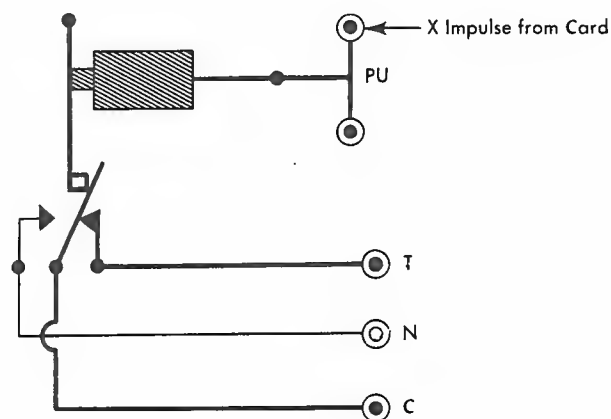

Figure 5.
2. Now assume that the next card passing through the machine is an X card (this means it has an X punch in Column 21.) This X punch enters the X-Pickup hub of the selector; from there it reaches and energizes the magnet. As the balance of the card is being read, the selector is in a Transferred condition and the reading brush impulse from a column into the Common hub of the selector comes out of the Transferred hub. (See Figure 5).